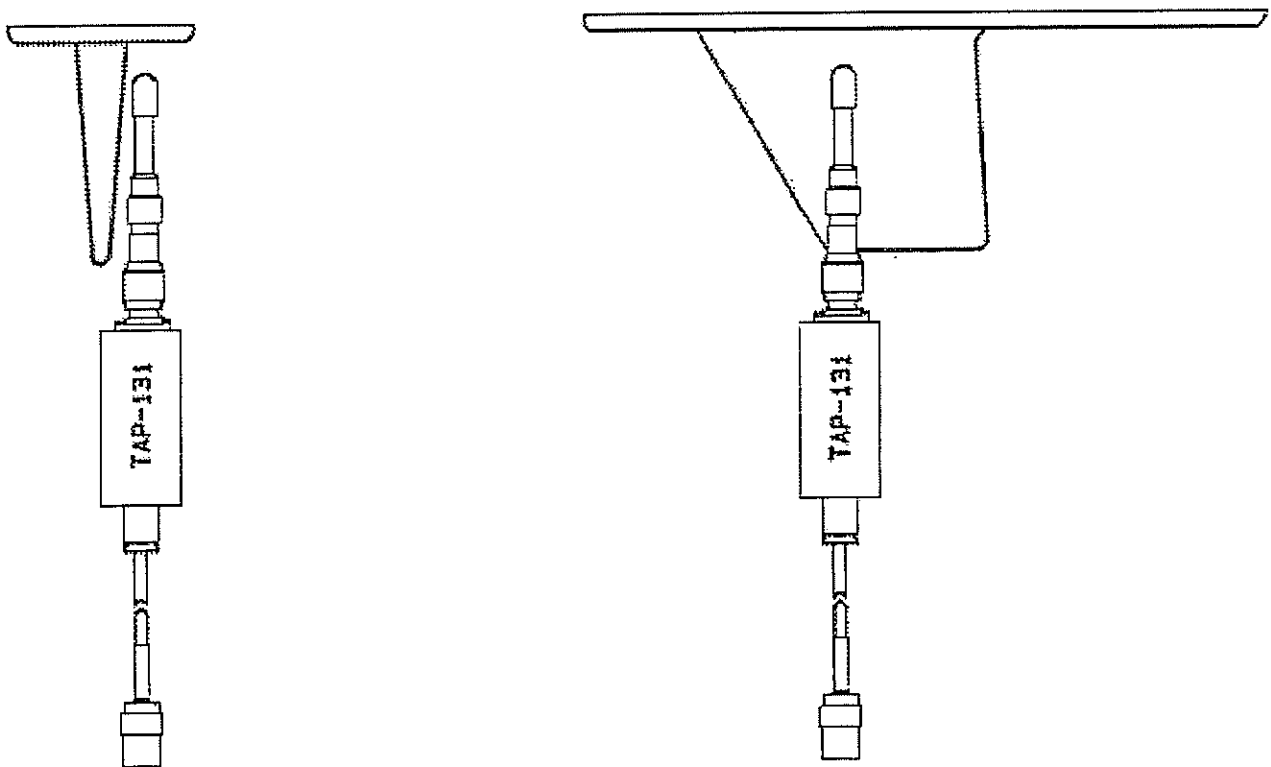

Figure E-2
- 1 To obtain a relative power, sensitivity and frequency reading, place antenna coupler TAP-131 as shown in Figure E-2.